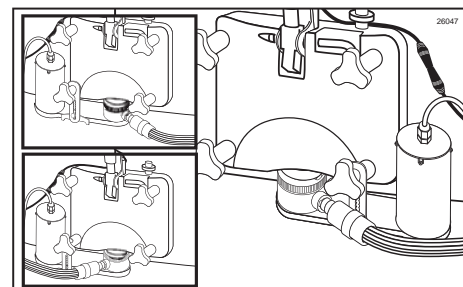

Figure 135
- Determine which side of the freezer the Injector Assembly will be mounted on. The Suspension Bracket should be installed to the outside of the Gear Box Assembly. (See Figure 135.)